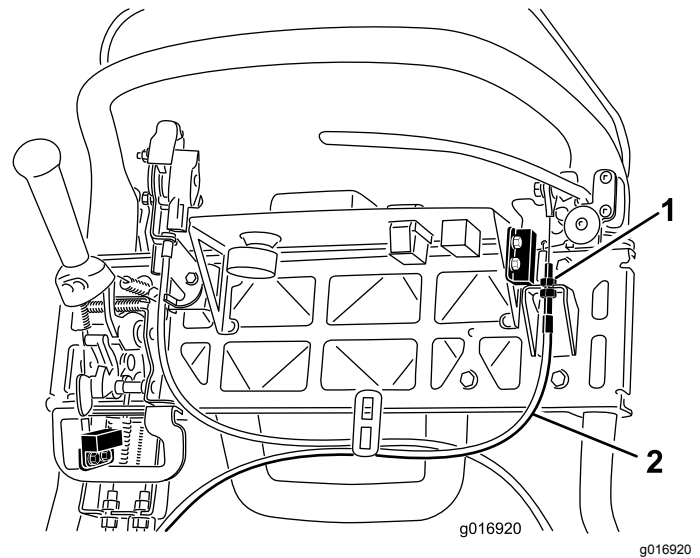

Figure 43
3. To increase the cable tension, loosen the upper cable jam nut and tighten the lower cable jam nut (Figure 43) until a force of 156 N (35 lb) applied to the brake-lever handle is required to release the parking-brake latch.